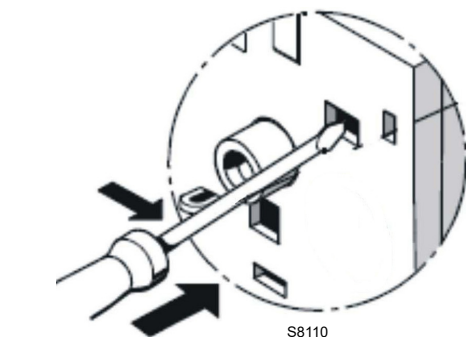

Fig. 35
- **Contact test NC (95-96) and NO (97-98)(Fig. 35)**